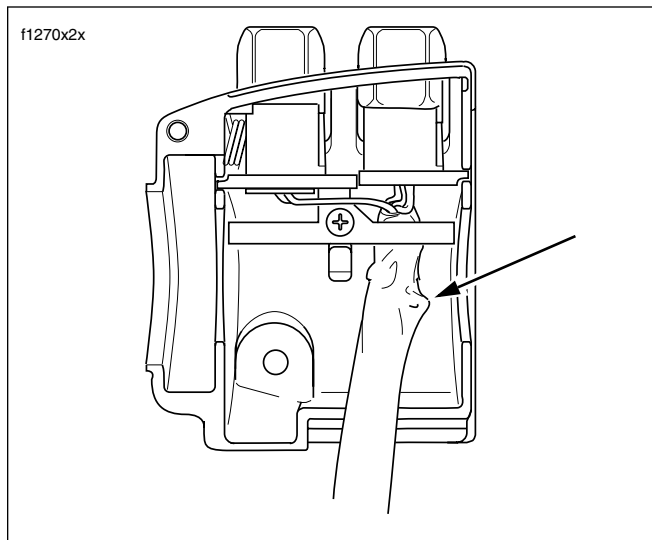
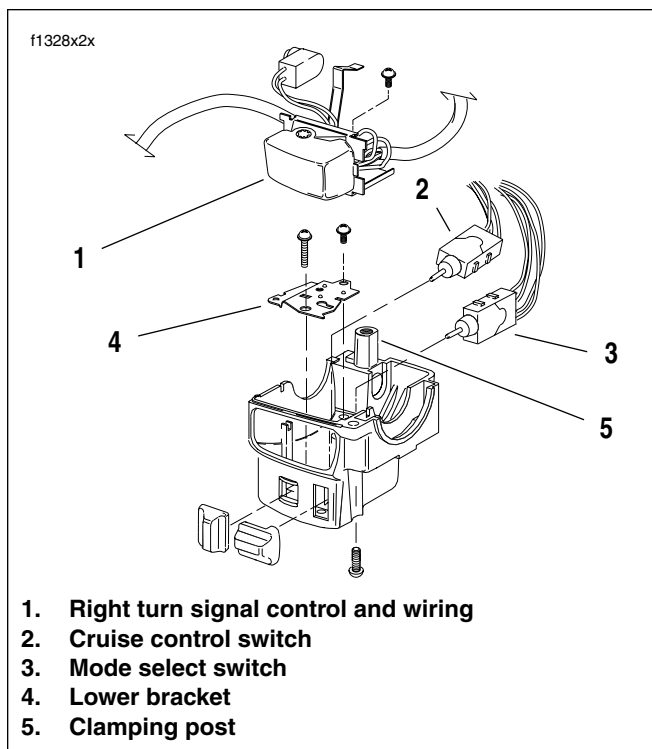

Figure 2-17. Run/Stop Switch Wiring in Upper Right Hand Control Housing
Figure 2-18. Wiring in Lower Right Hand Control Housing
10. See Figure 2-17. and Figure 2-18. Orient wires in switch-housings: